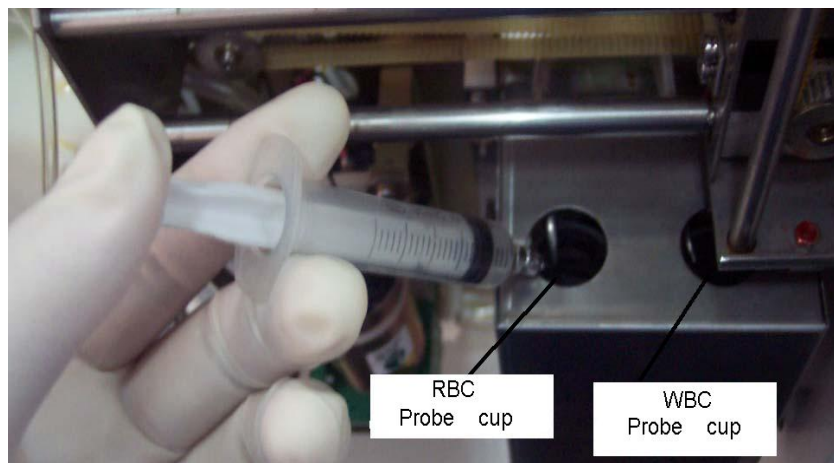

Figure 9-2
- c) After sample adding organ stop running, as figure 9-2 shows, inject 1ml probe detergent into corresponding probe cup which appear clog, probe cup position as figure 9-2 shows.